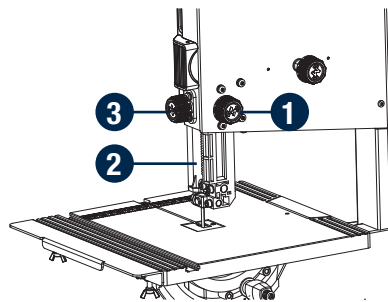

Fig. 7a
**SQUARING THE SAW TABLE TO THE BLADE (Fig. 7a-7b)**
- Turn the blade tracking knob (1) counter-clockwise to unlock the blade guide assembly (2). Turning the upper guide knob (3) clockwise, raise the blade guide assembly (2) as far as it will go. Turn the blade tracking knob clockwise to retighten.
- Place a square (4) on the saw table beside the blade (5).
- Loosen the table tilt locking knob (6) and rotate the table tilt adjustment knob (7) to tilt the work table up or down to align table 90° to square. (no gap between blade & square)